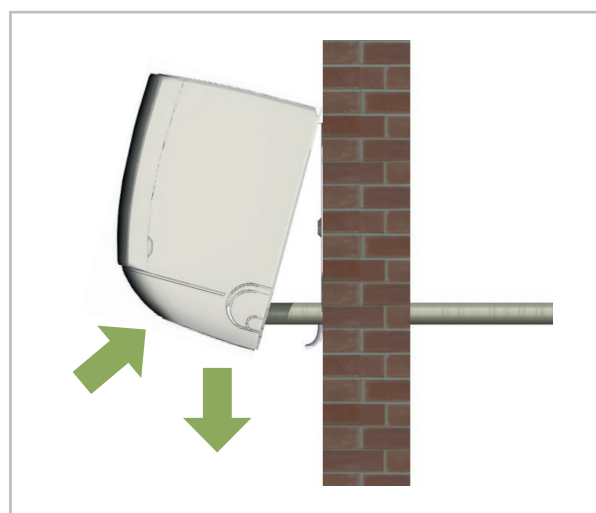

Fig. 17: Horizontal positioning
5. ➤ Check again that the unit is level. (Fig. 17)